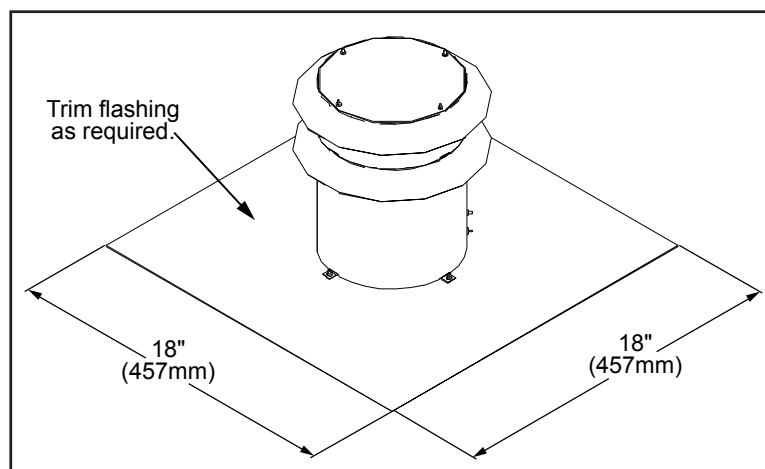

Figure 41: Vertical Vent Cap Dimensions.
4. The Vertical Vent Cap can be installed onto chimneys with flue openings up to 16" (406mm) x 16" (406mm) and the actual flashing is 18"x18" (refer to Figure 41). If the chimney is smaller the cap should be trimmed down and folded over.
5. Apply a bead of Mill-Pac Black sealant to the top section of the $\varnothing 3"$ (76mm) vent collar plate. Slide the $\varnothing 3"$ (76mm) flex vent over the flue collar and secure with three (3) sheet metal screws evenly spaced.